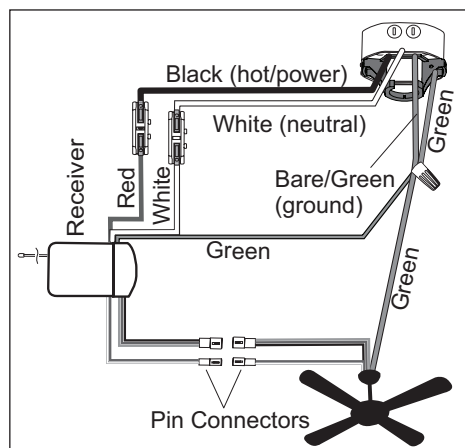

Figure 5.1
- Make the following wire connections according to the diagram and these steps (Figure 5.1):